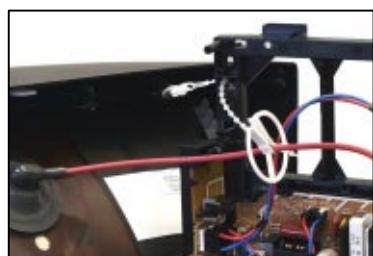

Fig.5.
5. Clip the chassis frame onto the bead clamper, shown in **Fig.5**.